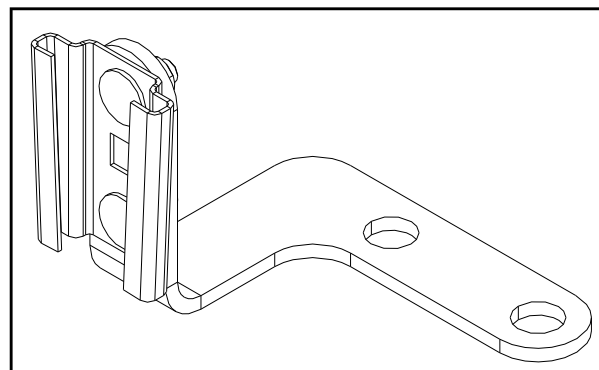

Fig. 18.1 (SMV Sign Bracket - Original)
18.1 Retrieve the SMV sign bracket removed in step 1. See Fig. 18.1